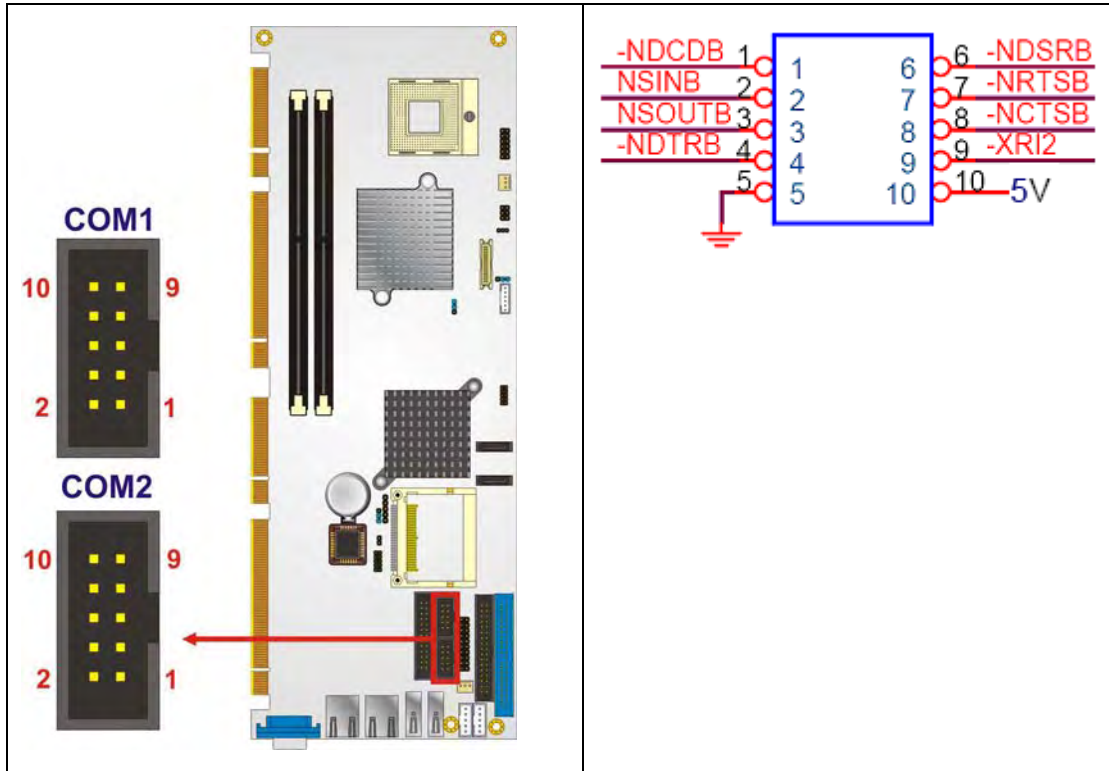

Figure 4-17: COM1 and COM2 Connector Pinout Locations
- CN Location:** See Figure 4-17